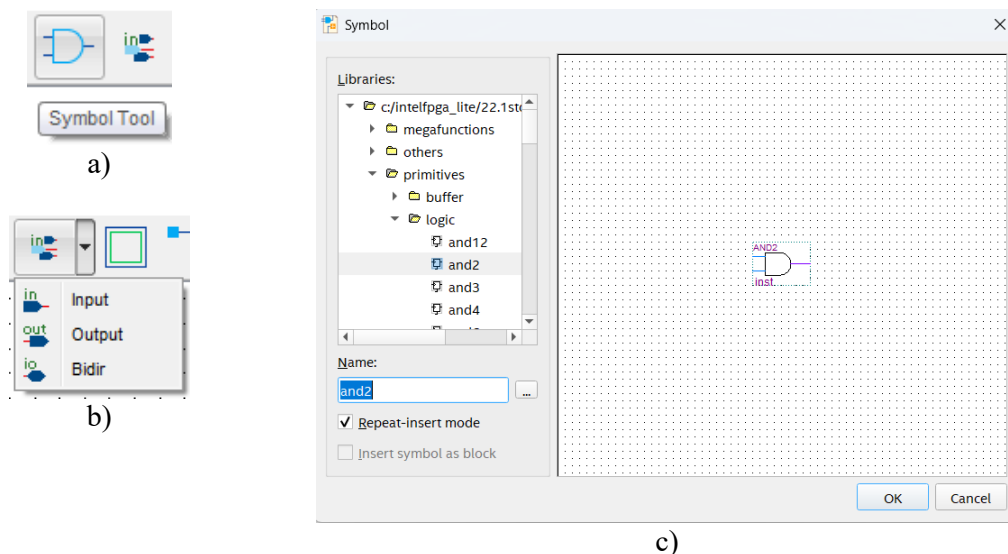

Figure 12 - “Symbol Tool” and “Pin Tool” toolbar buttons and AND logic port selection in the Quartus Prime component library.
4. Add a 2-input AND logic gate using the “Symbol Tool” toolbar button (Figure 12 a)) and choosing the component according to Figure 12 c).
5. Add two input ports and one output port using the “Pin Tool” toolbar button (Figure 12 b)).